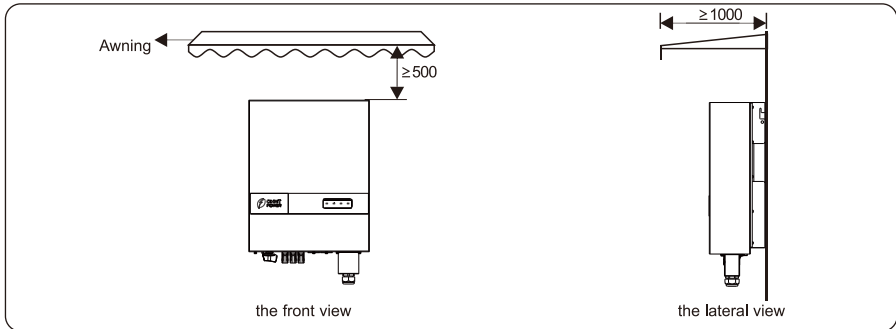

Figure 4.2 Installation environment with awning (unit: mm)
- c. To ensure long service life, the inverter must not be exposed to direct solar irradiation, rain, or snow. It is recommended that the inverter be mounted in a sheltered place. If no shelter is available, build an awning, as shown in Figure 4.2.